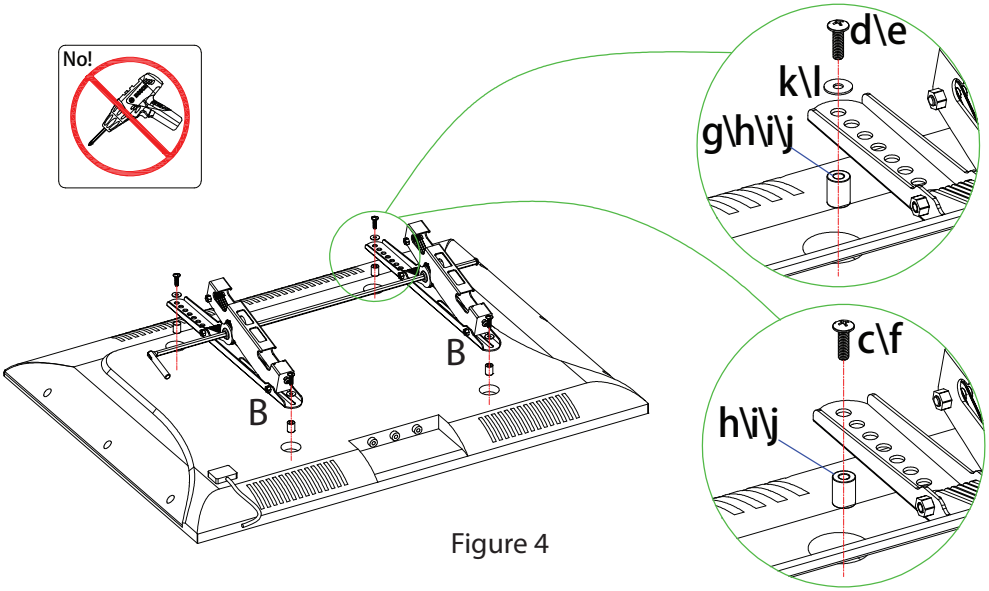

Figure 4
**Step 2:** Putting the brackets (B) on a flat table, then insert adjusting pole (C) into brackets and locking screw 04 tightly.
**Step 3:** Attach TV Bracket (B) to the back of TV, choose corresponding bolt, washer and spacer to fix the holes of TV rear. (Figure 4) If the back of TV is not flat, or the bolts used to assemble TV are too long, or there is interfere between TV bracket and cable inlets, we highly recommend you to use spacers.